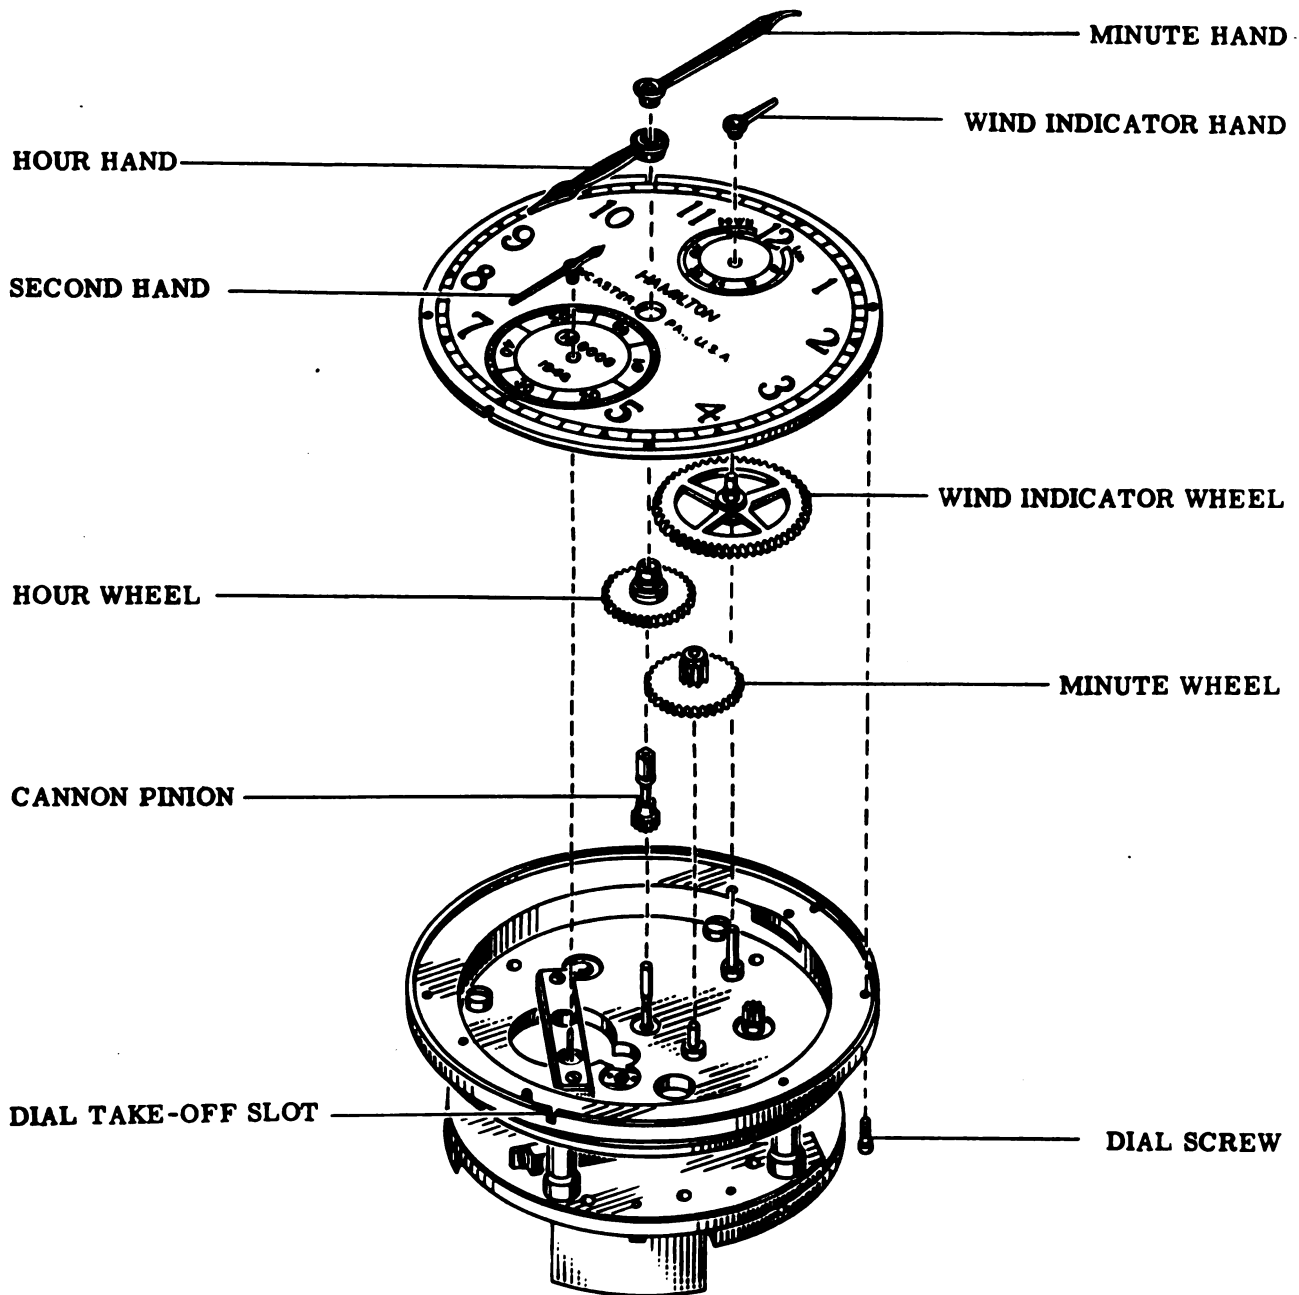

Figure 21
18. Remove second hand and wind indicator hand (see Fig. 21 for position of parts), using hand removers (Tools Nos. 79 and 80) with shield between tools and dial. The shield is known as Tool No. 49.
19. Turn movement, grasping the dial side with the left hand, using tissue paper between the palm of the hand and the dial. Remove four dial screws, using Tool No. 91. See Fig. 21 for position of parts.
20. Turn movement over. Place on bench, dial side up. Remove dial, using dial take-off slot. Refer to Fig. 21.
21. Remove wind indicator wheel, hour wheel and minute wheel. Remove cannon pinion, using Tool No. 21. See Fig. 21.